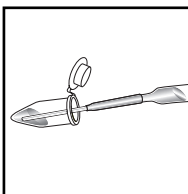

Figure 1
2. Fill the micro-test tube approximately halfway with **your sample** (fig 1).
4. Holding the VACUette almost horizontally, touch the tip to the contents of the micro-test tube (fig 1).